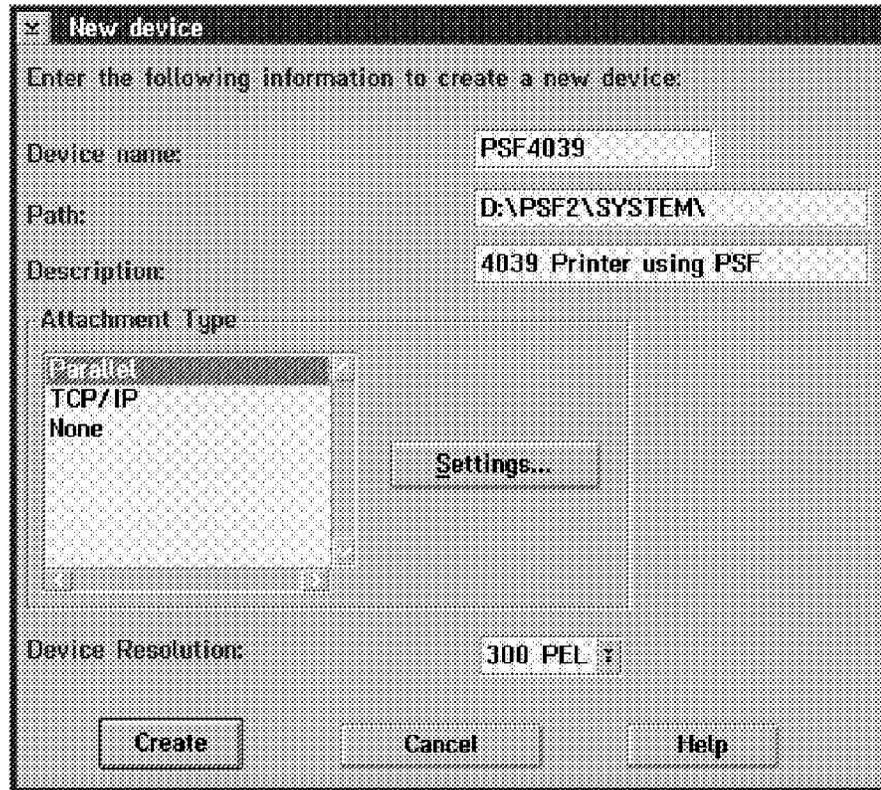

Figure 178. Defining a New Device in PSF/2
1. Select the **Profile** menu item, then select **New...** The New device window shown in Figure 178 on page 239 will open.
Once you defined a device, you can define new devices of the same type by using the Copy option. On the PSF/2 Control Panel window, select the device you want to copy. Then, from the Profile pull-down menu, select **Copy...** The Copy device window will open, which has the same information as the New device window shown in Figure 178. Follow the same procedure as for creating a new device. When you're done, click on **Copy**.